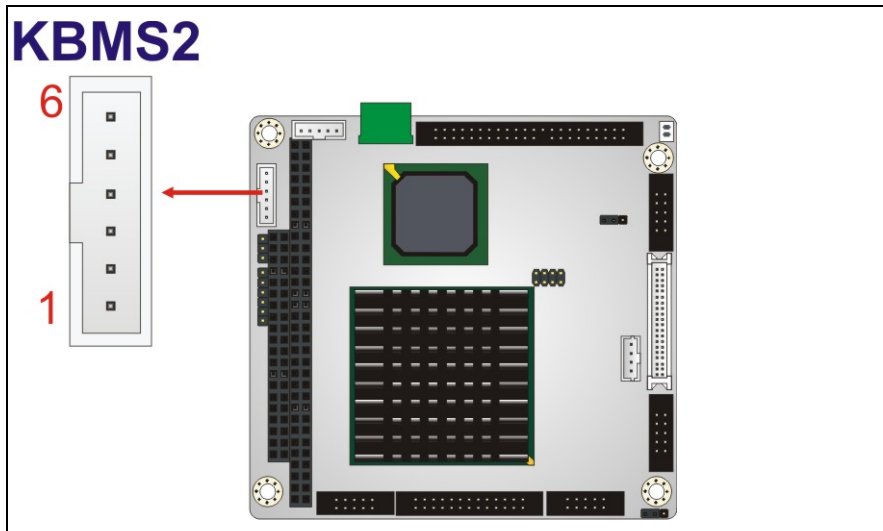

Figure 3-10: Keyboard/Mouse Connector Location
- CN Pinouts:** See **Figure 3-10**